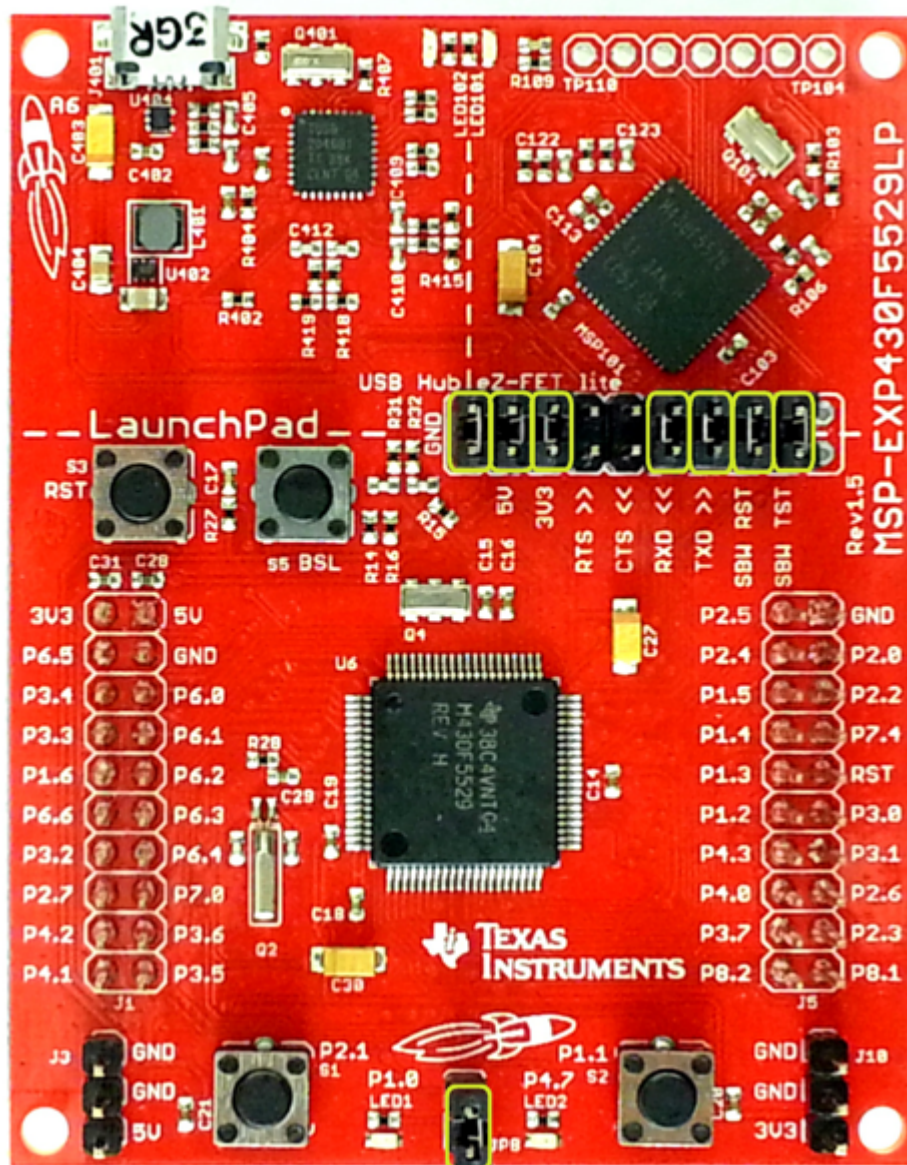

Figure 10. Jumpers on the MSP430F5529 Launchpad
- The jumpers on the MSP430F5529 Launchpad should be connected as shown in Figure 10.